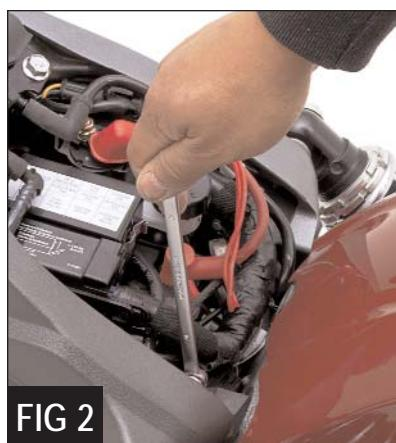

FIG 9
1. Remove the bolts on the fender strut, using a 6mm Allen wrench (*Figure 8*). Pull down the strut, then loosely put the bolts back into the fender to hold the fender in place (*Figure 9*).